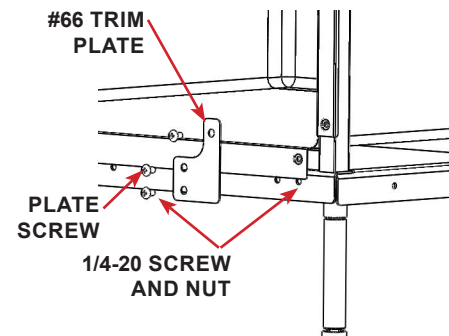

FIGURE 2.31 - Trim Plate #66
**STEP 23:** Remove the bottom right trim plate screws (2 each) from the last cage in the row. See FIGURE 2.31
**STEP 24:** Install, but do NOT fully tighten screws, trim plate (#66) using the screws removed in the previous step. The bottom hole requires 1/4-20 screw and nut to secure the cage to the platform frame. See FIGURE 2.31